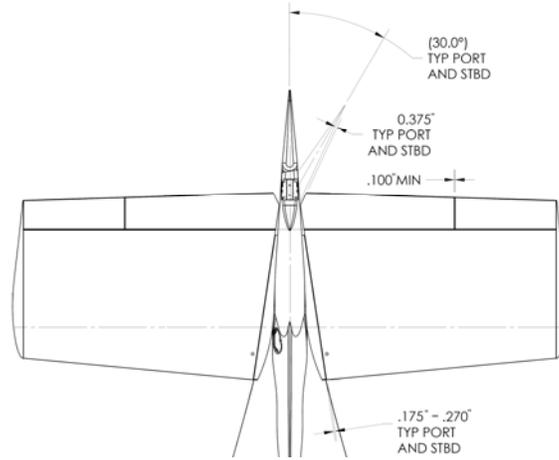

Figure 27-92 Tail Section Clearance Measurements Between Horizontal Stabilator and the Vertical Stabilizer
22. Check the clearance between the trim tab and the stabilizer. The clearance should be 0.100in minimum. See Figure 27-92.
23. Measure the clearance between the horizontal stabilizer and the fuselage. The clearance should be more than 0.175in and less than 0.270in. See Figure 27-92.
25. Check all combinations of trim tab / horizontal stabilizer movement against full travel of rudder to ensure a minimum clearance of 0.375in between inboard aft corner of trim tab (worst condition tail plane and trim tab extended fully down) and rudder skin at maximum rudder travel see Figure 27-92.